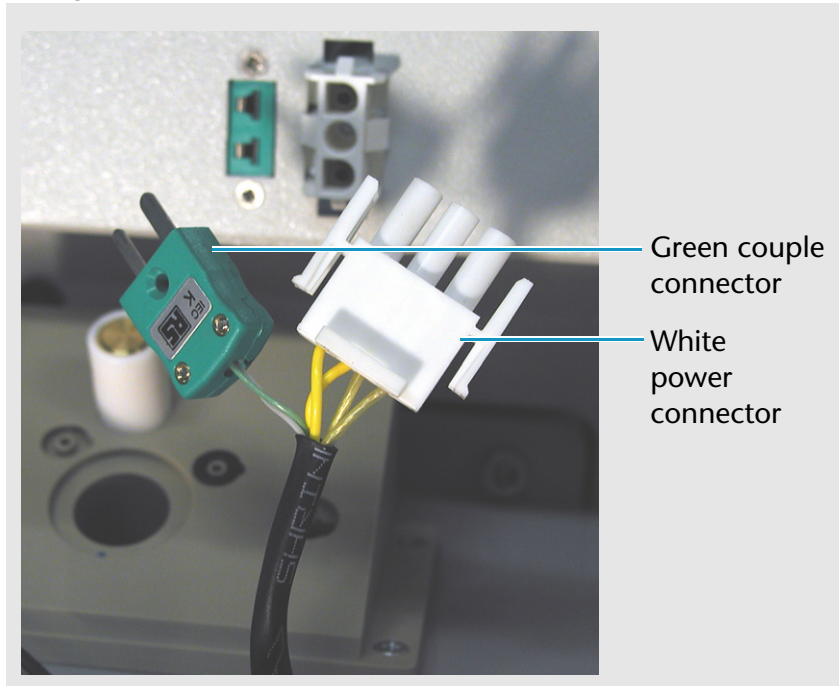

Fig. 55 Power connector and couple connector
3. Pull the probe heater out of the probe mount, and then disconnect the green connector and the white connector from the mass detector. Be careful not to lose the O-rings. See Figure 55.